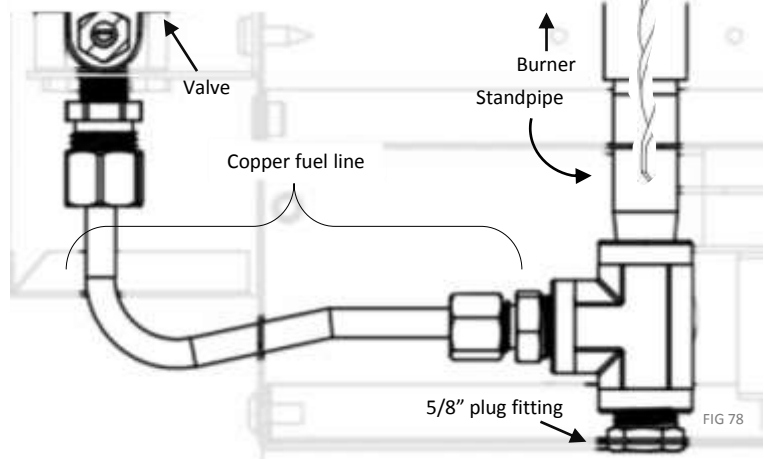

FIG 78
*See page 42, fig 78 for fuel line cleaning instructions*